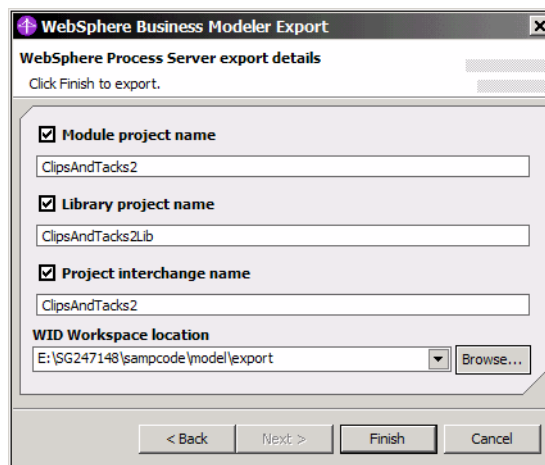

Figure 14-16 Export: WebSphere Process Server export details
- ▶ Define the destination and source information (Figure 14-16):